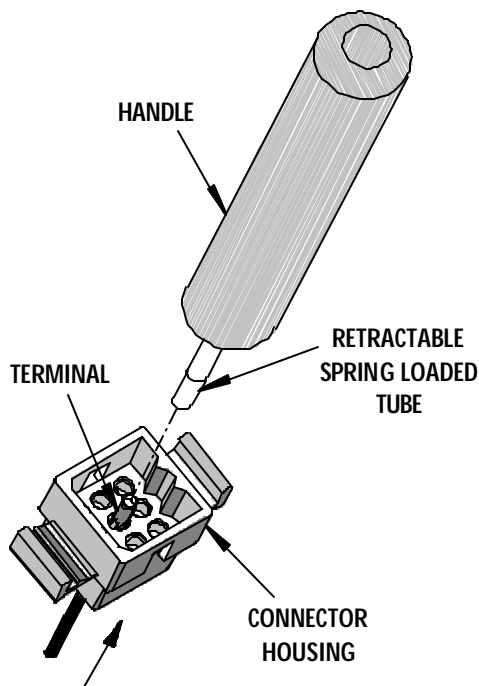

Figure 1
1. The Extractor Tool must be **In Line** with the terminal as shown. Push terminal forward in arrow direction before using the Extractor Tool, (See Figure 1).